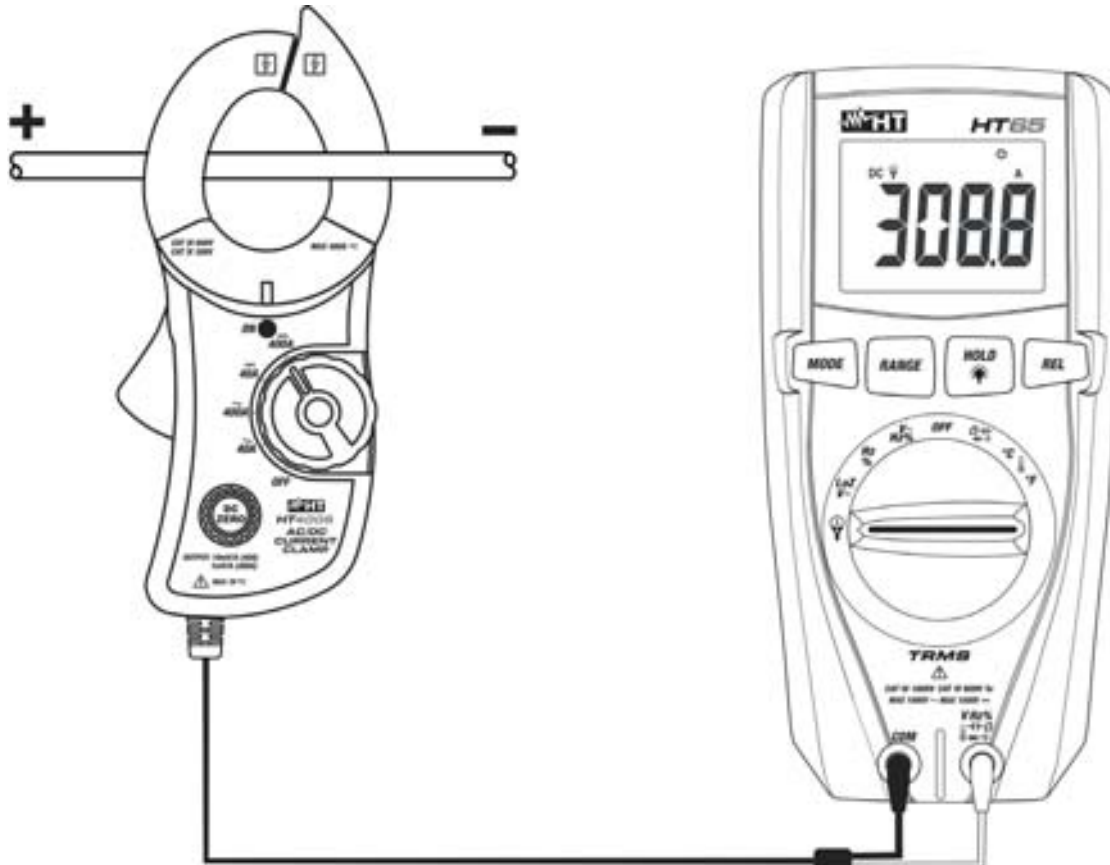

Fig. 10: Use of the instrument for DC current measurement with transducer clamps
5. Insert the cable inside the jaw (see Fig. 10). The value of current appears on the display
7. When symbol "-" appears on the instrument's display, it means that current has the opposite direction with respect to the connection in Fig. 10